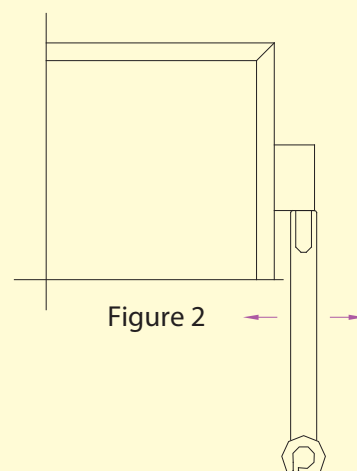

Figure 2
- When the armored door is placed in flawed lead, this condition usually occurs when the floor is not level, it is possible that, once opened, it closes itself; to fix this the pin of a hinge can be misaligned by 1 mm, creating an obstacle in its head so that the door remains stationary at the point where it is left (see Figure 2).